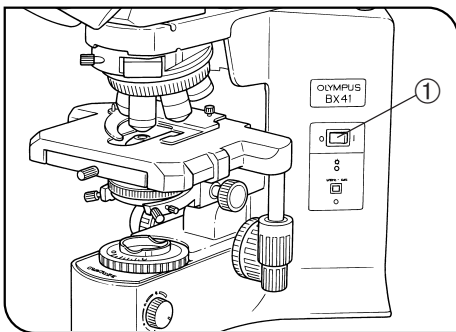

Fig. 1
(Fig. 1)
4. To avoid potential shock hazards and burns when replacing the light bulb, set the main switch ① to “**O**” (OFF) then disconnect the power cord from the wall outlet in advance. Whenever you replace the bulb during use or right after use, allow the lamp socket ② and bulb to cool before touching. (Figs. 1 & 2)